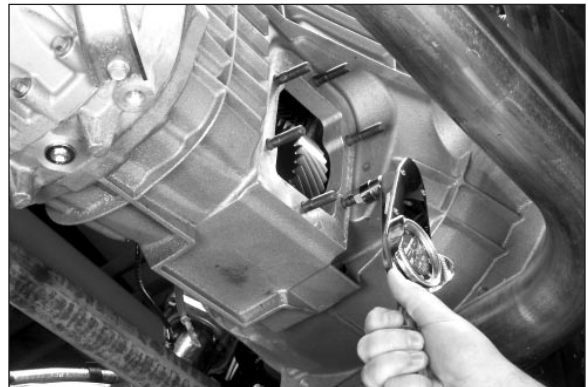

Fig. 3
4. Install the six studs and torque to 17-19 Lbs. ft. [23-26 N.m.] (Fig. 3).